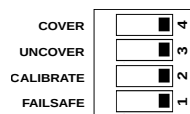

Figure 12: DIP Switch
- Unscrew the cover and ensure that all DIP switches are in the OPEN position as shown in Figure 12. Make sure that the status LED is not blinking for error.
- Unscrew the cover and make sure that all DIP switches are in the OPEN position as shown in Figure 12. Ensure that the STATUS LED is not blinking for error.